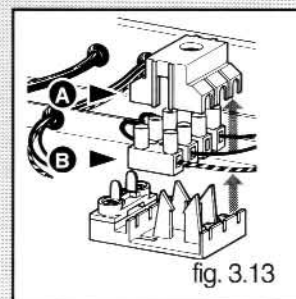

fig. 3.13
- 1- Fit the cables of the room thermostat into the silicone cable holders on the manifold of the frame (1) and on the back fold of the instrument panel (2);
- 2- "Remove the top lid of the junction block "A" (see fig. 3.13).